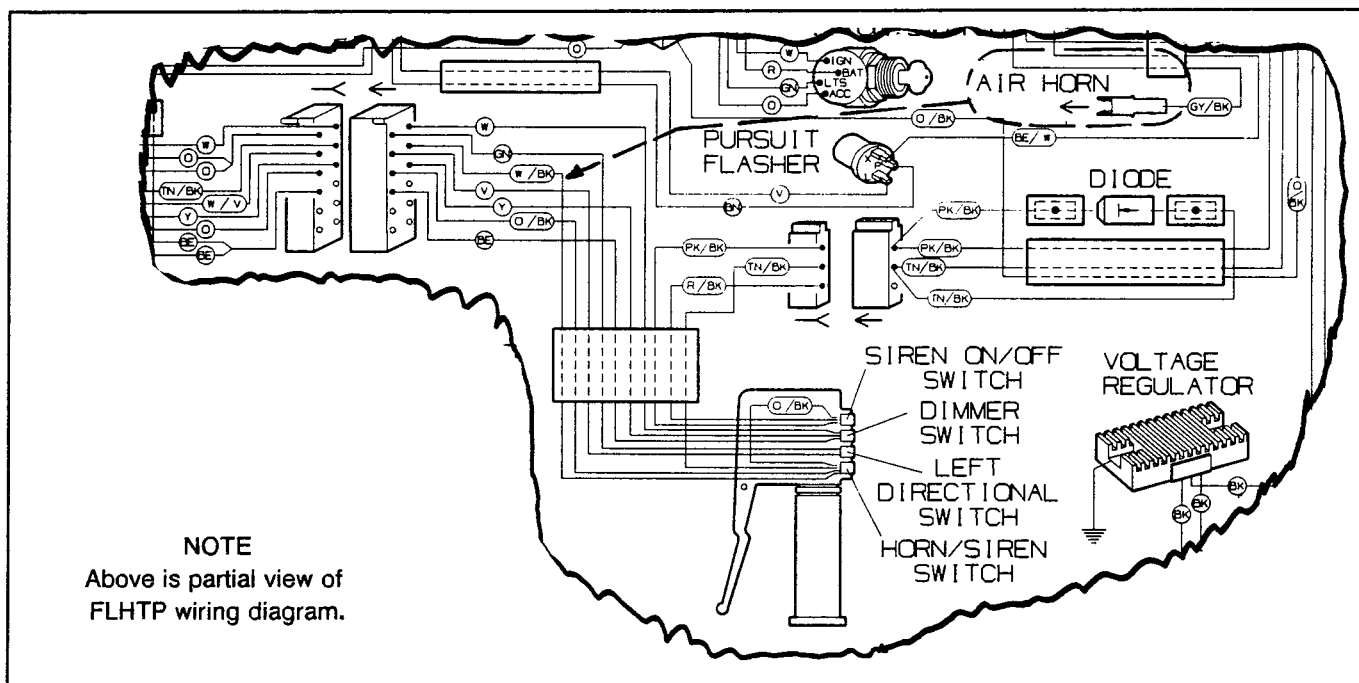

Figure 2. FLHTP Air Horn Connection
2. See Figure 2. Locate the 12-place connector in the left handlebar harness in the instrument panel housing.